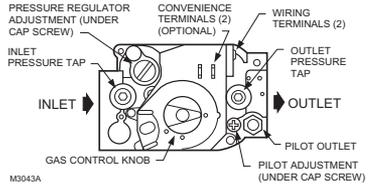

Fig. 4. Top view of gas control.
6. Connect pipe to gas control inlet and outlet. Use wrench on the square ends of the gas control. If a flange is used, place wrench on flange rather than on gas control. Refer to Fig. 4 and 5.
3. Unscrew compression fitting from the pilot outlet. See Fig. 4. Slip the fitting over the tubing and slide out of the way.
3. Connect control circuit to gas control terminals. See Figs. 4 and 7.
1. Remove the pilot adjustment cover screw. Refer to Fig. 4.
2. With the main burner operating, check the gas control flow rate by using the meter clocking method or check the gas pressure using a manometer connected to the gas control outlet pressure tap. Refer to Fig. 4.
2. With the main burner operating, check the gas control flow rate by using the meter clocking method or check the gas pressure by using a manometer connected to the gas control outlet pressure tap. Refer to Fig. 4.